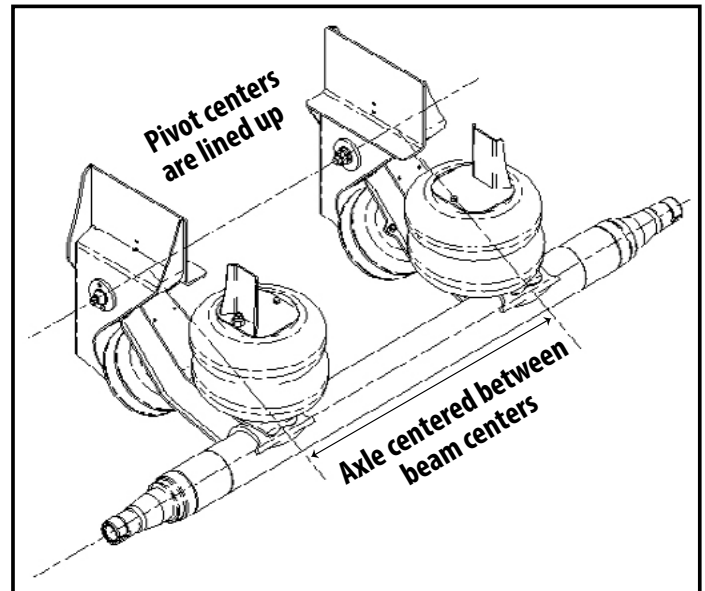

Figure 1.
- Center the axle assembly on the beams (Figure 1).